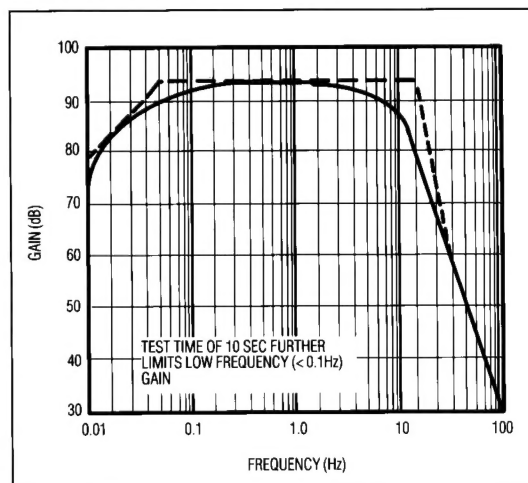

Figure 6. 0.1Hz to 10Hz V_{p-p} Noise Tester Frequency Response
3. As shown in Figure 6, the 0.1Hz corner is defined by only one zero. A maximum test time of 10sec acts as an additional zero to eliminate noise contributions from the frequency band below 0.1Hz.